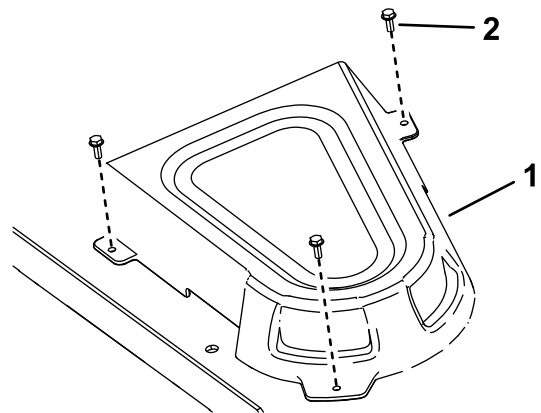

Figure 49
- Remove the pulley covers (Figure 49).